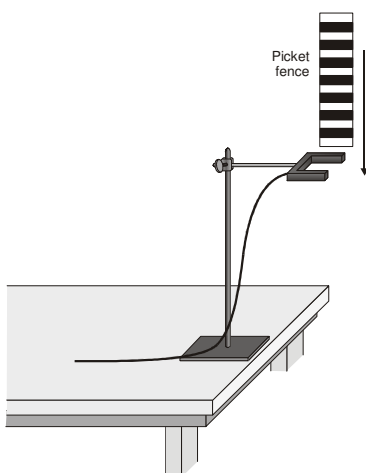

Figure 1
3. Fasten the photogate to a support rod or ring stand so that the arms of the photogate are horizontal (see Figure 1).